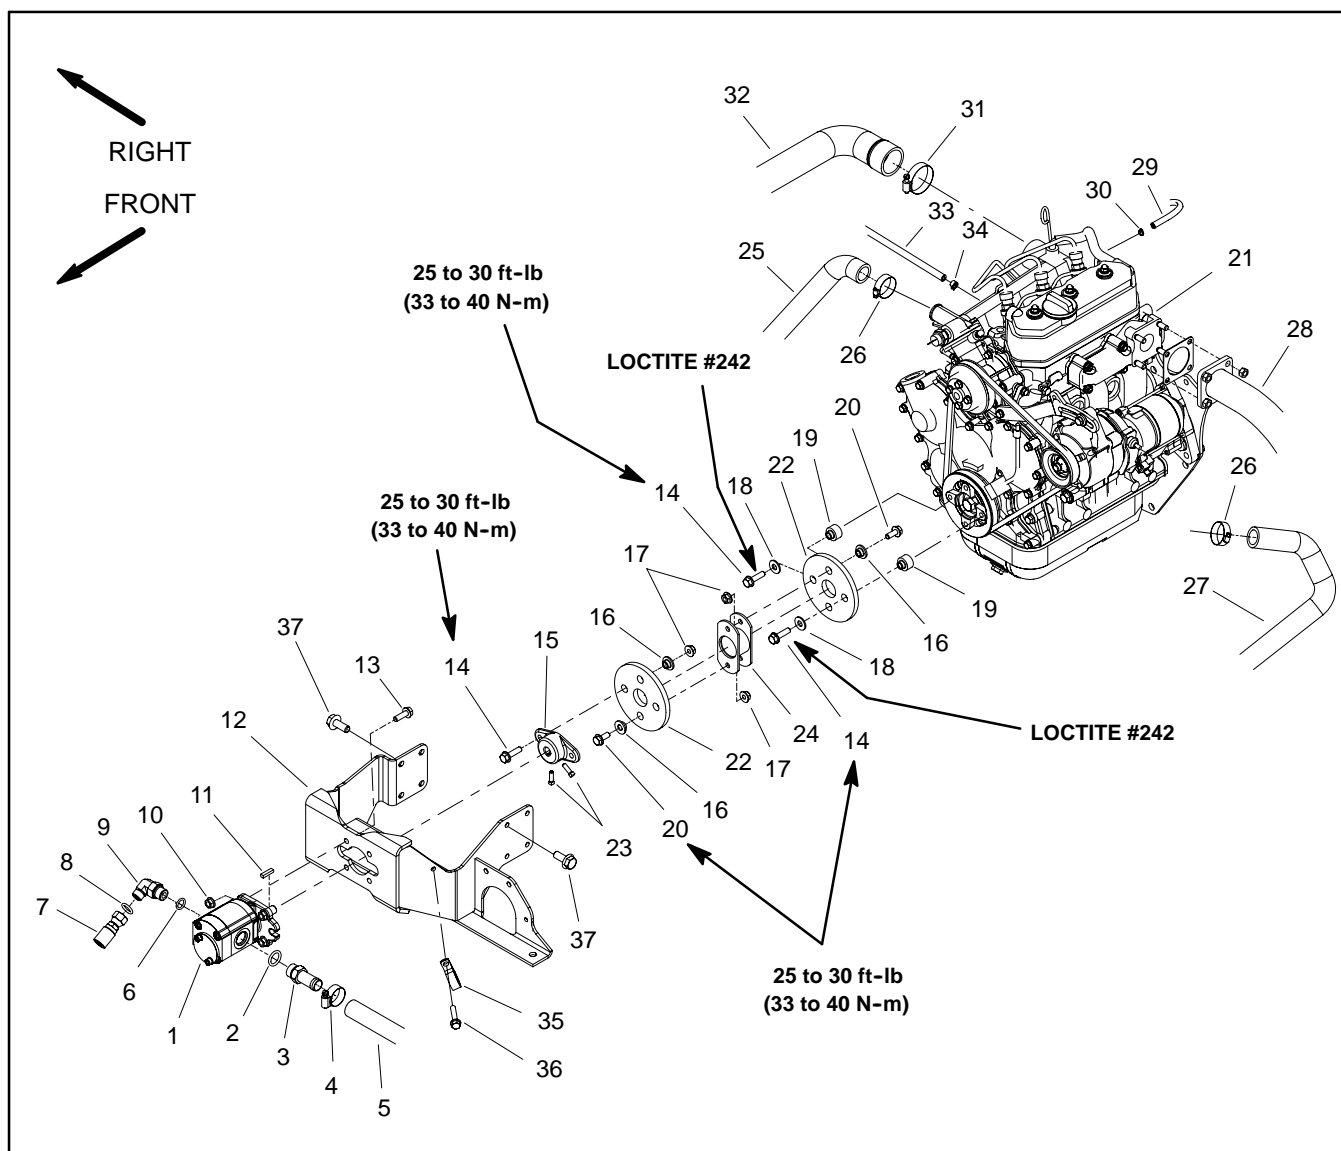
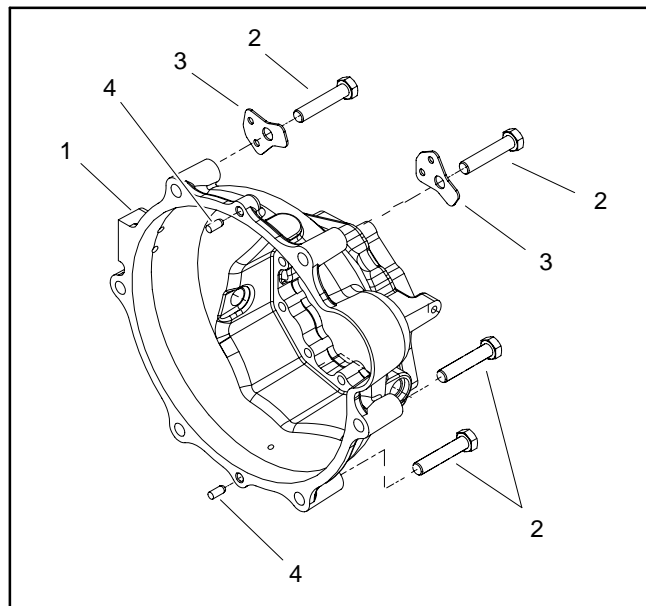

Figure 11
Figure 14
Engine Removal (Fig. 11)
16. Remove six (6) cap screws that secure clutch bell housing to engine. Note location of two (2) harness brackets as caps screws are being removed (Fig. 14).
18. Note location and retrieve two (2) dowel pins from bell housing (Fig. 14).
21. If necessary, remove coupler components from engine pulley using Figure 11 as a guide.
Engine Installation (Fig. 11)
2. If coupler assembly was removed, assemble coupler to engine flywheel using Figure 11 as a guide. Apply Loctite #242 (or equivalent) to threads of flange head screws (item 14) that secure rubber coupler to engine pulley. Torque fasteners to values identified in Figure 11.
3. If engine mount was removed, secure mount to engine with seven (7) flange head screws. Do not install the screw used to secure the ground connections to the engine at this time.
5. Install two (2) dowel pins in bell housing bores (Fig. 14).
8. Secure bell housing to engine with six (6) cap screws and two (2) harness brackets (Fig. 14).